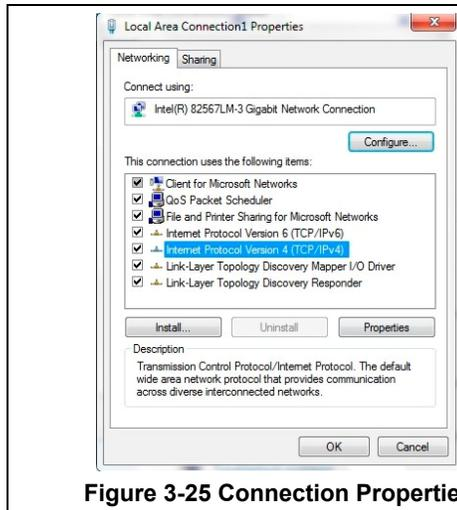

Figure 3-25 Connection Properties
- d. Select **Internet Protocol Version 4 (TCP/IPv4)** from the Properties screen, Figure 3-25